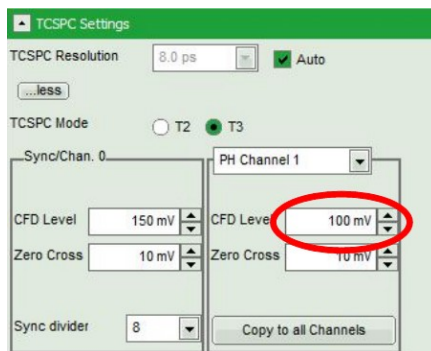

Fig. 6.1: Adjustment of the CFD threshold level by using the SymPhoTime64 software
In case you bought the PMA Hybrid without a complete system, the CFD threshold setting must be adjusted. This setting can be adjusted in the SymPhoTime64 software. Please make sure to have administrator rights and start the software in the "configuration" mode from the start menu. The measurement for the setting is done in the "Test" Tab using the "TCSPC Settings" drop down window (Fig. 6.1).
- PMA hybrid: Set the CFD level to 100 mV, as displayed in Fig. 6.1. Please write down the count
- PMA: Set the CFD level to 10 mV, as displayed in Fig. 6.1. Please write down the count rate. Now go in steps of 10 mV higher and write down the count rate at each step. You will find that the count rate decreases when increasing the CFD-level. Stop when the countrate has dropped to 60 - 70 % of the max. value. Now, monitor the TCSPC histogram. Set the Zero Cross level to 10 mV and vary until you get the smallest peak FWHM.